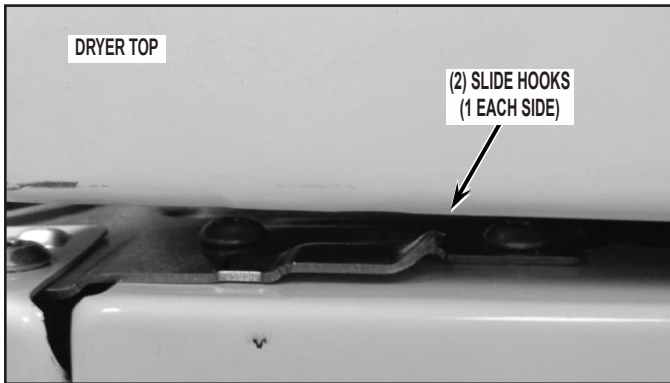

FIGURE 28
11. Slide the dryer top and console assembly forward, making sure the top catches the two slide-hooks, one on either side near the front. See *Figure 28*.